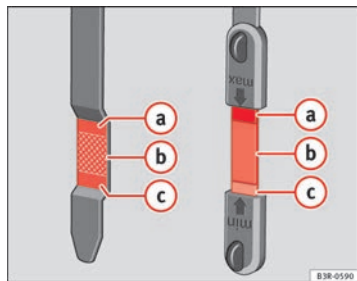

Fig. 179 Markings on oil dipstick
- Then pull it out once more and check the oil level ⇒ fig. 179. If the oil level is too low, add more engine oil ⇒ page 230.